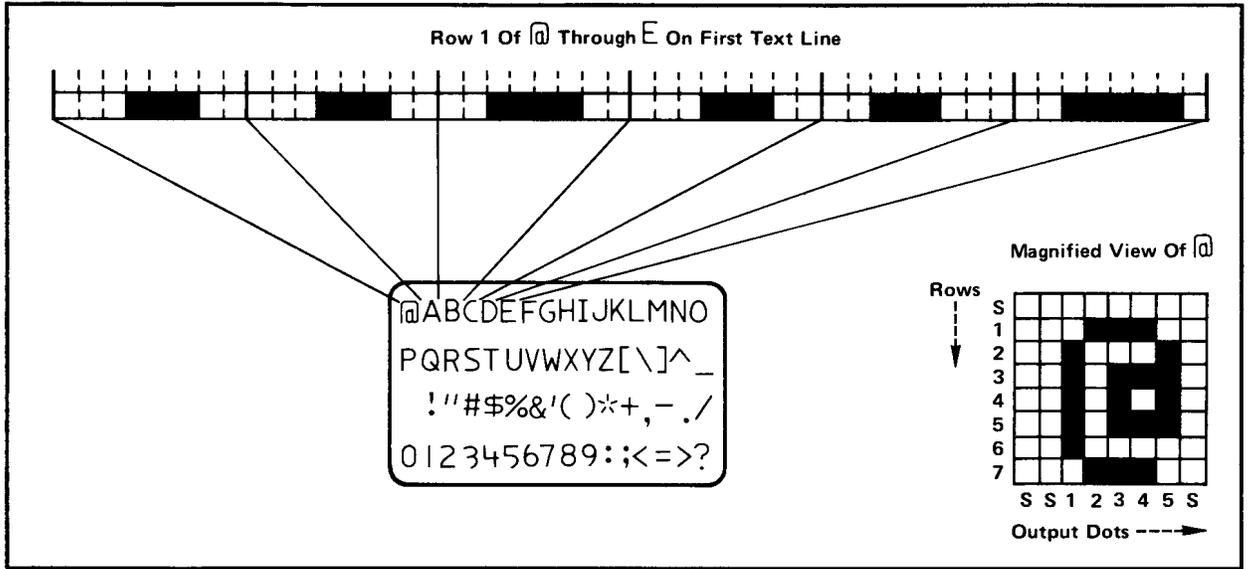

Figure 10, Character Generation
3.20 The ROM is set up and then, as shown in Figure 10, sends out five dots (or lack of dots) representing the top row of the first character in a continuous stream that is stepped out of the ROM and through the parallel to serial converter. Then the top row of the second character, third, fourth, etc., are sent until all sixteen character posi-